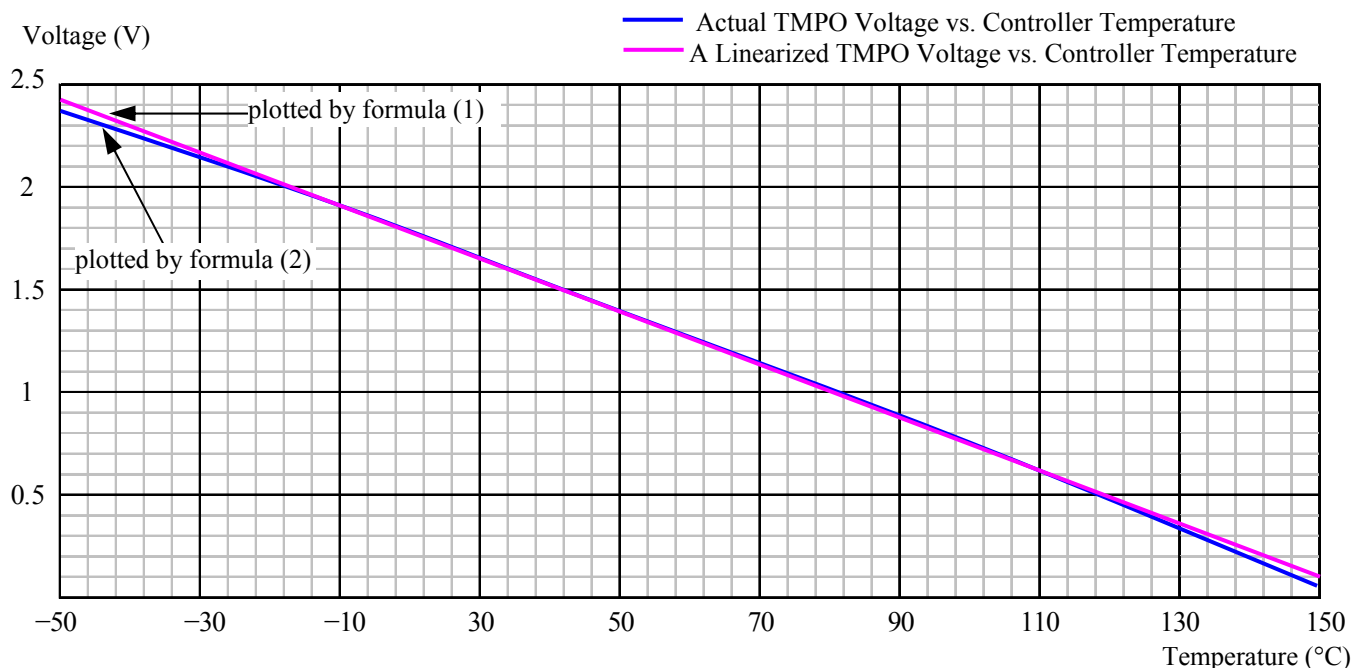

Figure 16. Controller Internal Temperature vs. TMPO Voltage
Within the most commonly used temperature range of between  $0^{\circ}C$  to  $100^{\circ}C$ , the maximum error occurs at about 1.5V, at which the temperature error between the calculated data by using the formula (1) and the approximated data obtained by using the linear equation (2) is about  $0.4^{\circ}C$ , with the linear data being a little lower. The curves of the 2 sets of the data are plotted in Figure 16.